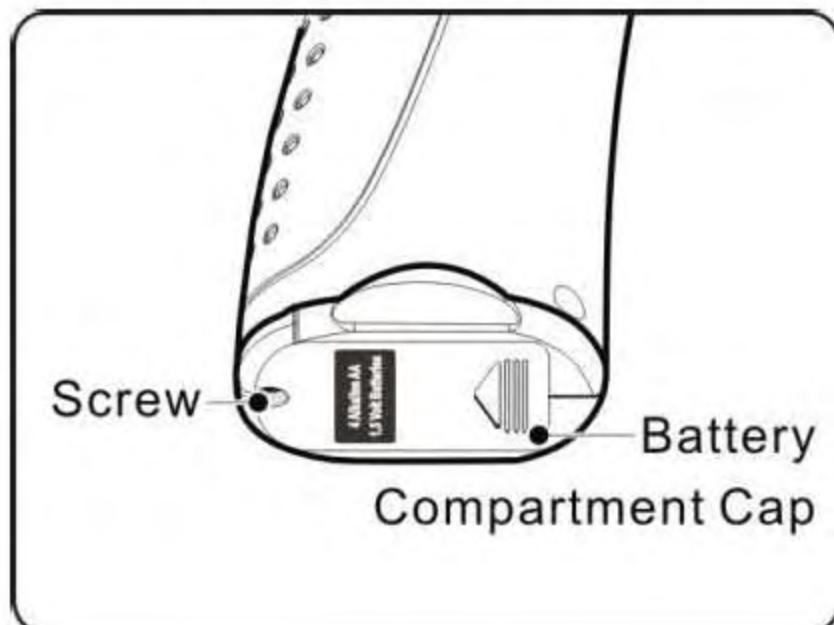

Fig. 4
- 1) Turn the handheld display unit upside down to expose the battery compartment cap and screw (*Fig. 4*).